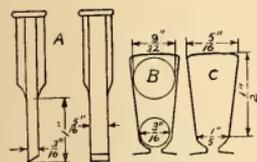

Fig. 2. Chisel and slot it is used to make
The material between each pair of holes, Fig. 2, is then cut out with a chisel made for this purpose and the slot shaped out. The chisel for cutting the slots is dimensioned in Fig. 2, (A). Any blacksmith will make this at small cost. It may be made of an old
At (B), Fig. 2, is shown the two holes in the iron which form the slot. The slot outline shows the material that is to be cut away. The finished slot is dimensioned in illustration (C). After the iron between the holes has been cut away, the slots should be shaped out with a file.